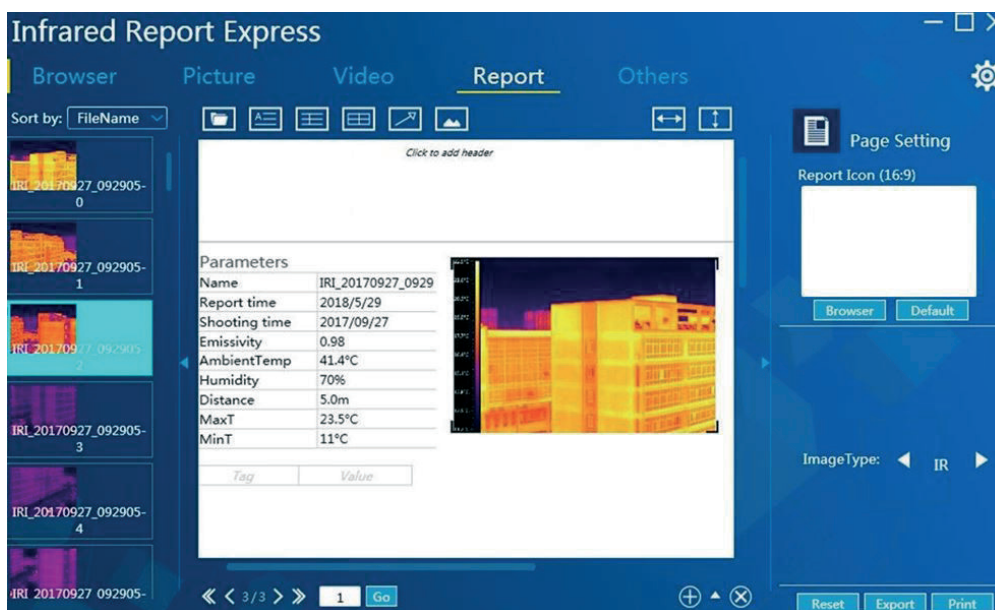

Figure 3-43
1. Enter the “Generate Report” module and load any of the infrared pictures. See Figure 3-43: